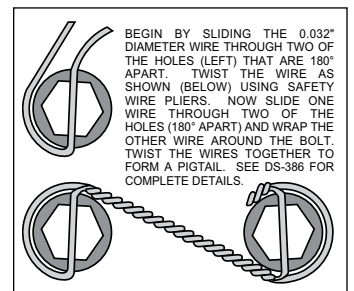

Figure 2. Safety Wire Diagram
STEP 2 For 140-18479: Orient the hat (5) and the rotor (6) as shown in Figure 1A and Photo 2. Attach rotor to hat using washers (7) and bolts (8). Apply red *Loctite*[®] 271 to the bolt threads and torque to value shown in Figure 1A using a criss-cross pattern. For an added measure of security, the bolts may be safety wired using standard 0.032 inch diameter stainless steel safety wire as shown in Figure 2. Refer to Wilwood's data sheet DS-386 (available at www.wilwood.com/pdf/DataSheets/ds386.pdf) for complete safety wire installation instructions.